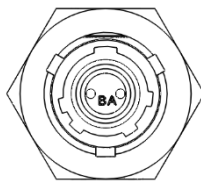

Figure 3 – Power Interface
2.3 Power – The power interface connector is a two pin 71-533721-02P circular waterproof connector used to apply power to the speaker. Figure 3 and Table 3 describe the power interface.